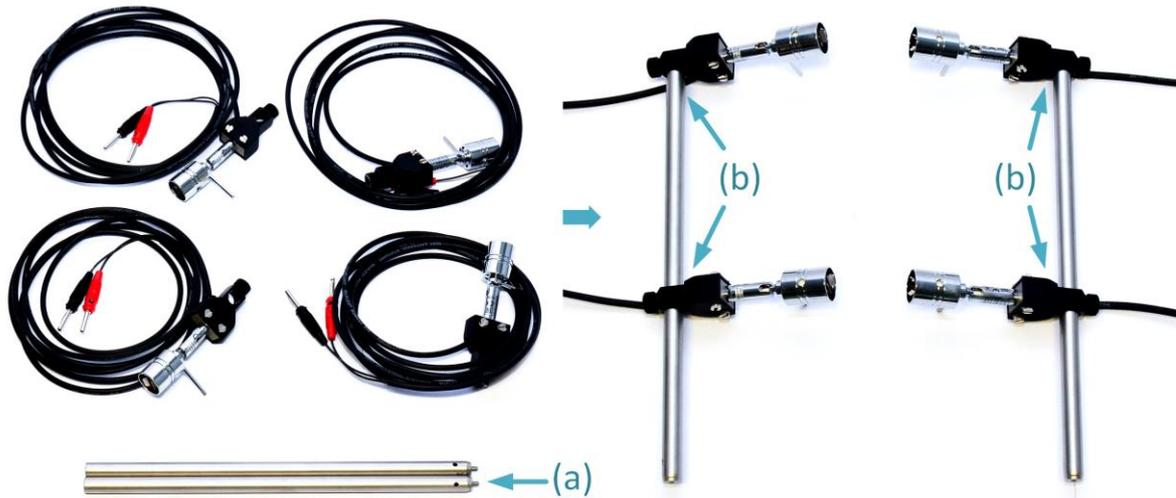

Figure 24 Assembly of lamp holders on the posts (Step 4.1)
Step 4.1 Mount the lamp holders on the post (Figure 24)
- Slide two lamp holders on the post and fix them by tightening the screw on the post end clamp, as shown in Figure 24. Repeat this step to assemble the remaining two lamp holders on the second post.